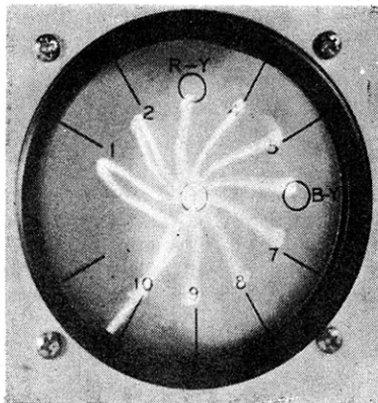

Fig. 2
15. Turn receiver color control to minimum. Center dot on V-7 CRT with positioning controls. Slowly advance color control on receiver and observe the Vectorscope. Center the trace on the Vectorscope, and increase receiver color control until the vectors are of the proper size. For cleanest vector, turn receiver brightness to minimum and adjust receiver horizontal hold for sharpest trace. Fig. 2 shows the vector display of a properly adjusted receiver.